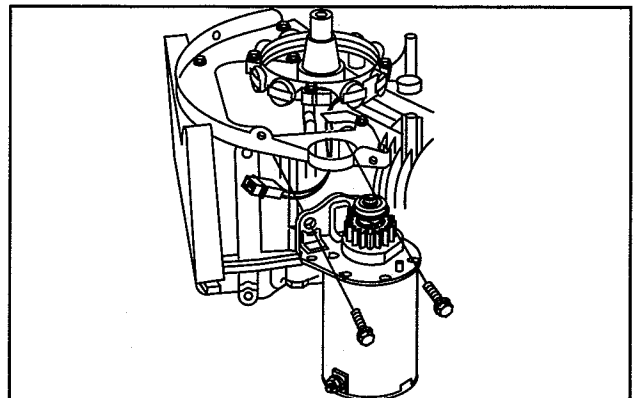

Fig. 8 – Install Alternator
2. Install alternator, Fig. 8.